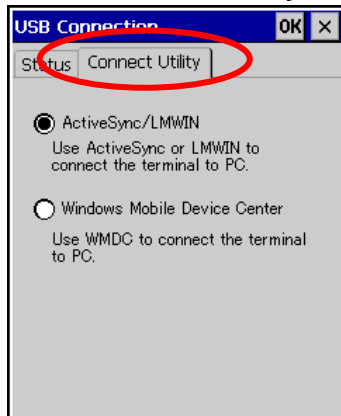

Figure 5.20
- To resume the factory default setting, choose **ActiveSync/LMWIN** radio button in Step 3 on the previous page (see Figure 5.20), and start up the DT-X30 again.